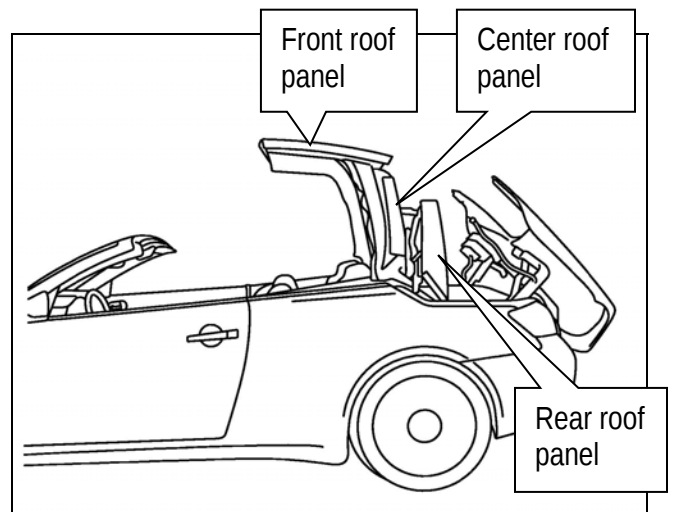

Figure 1
1. Open the convertible top half way, to allow access to the center roof weather-strip as shown in Figures 1 and 2.